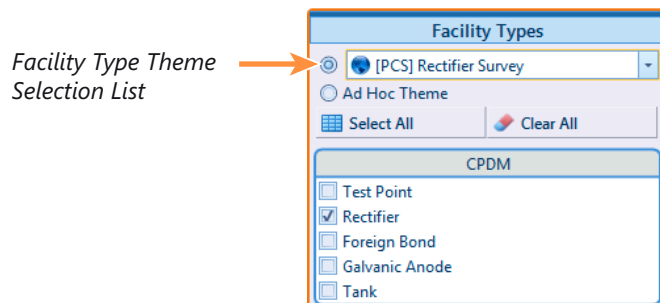

Figure 8-8. Facility Type Theme Option
- a To select a facility type, click the facility type option button and then click the down arrow and select a facility type in the list, such as **[PCS] Rectifier Survey** (Figure 8-8).